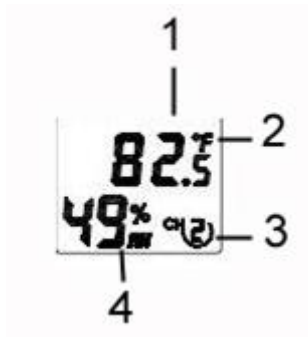

Figure 16: sensor LCD display
8. Verify the correct channel number (CH) and temperature units of measure ($^{\circ}\text{F}$ vs. $^{\circ}\text{C}$) are on the display, as shown in Figure 16 .